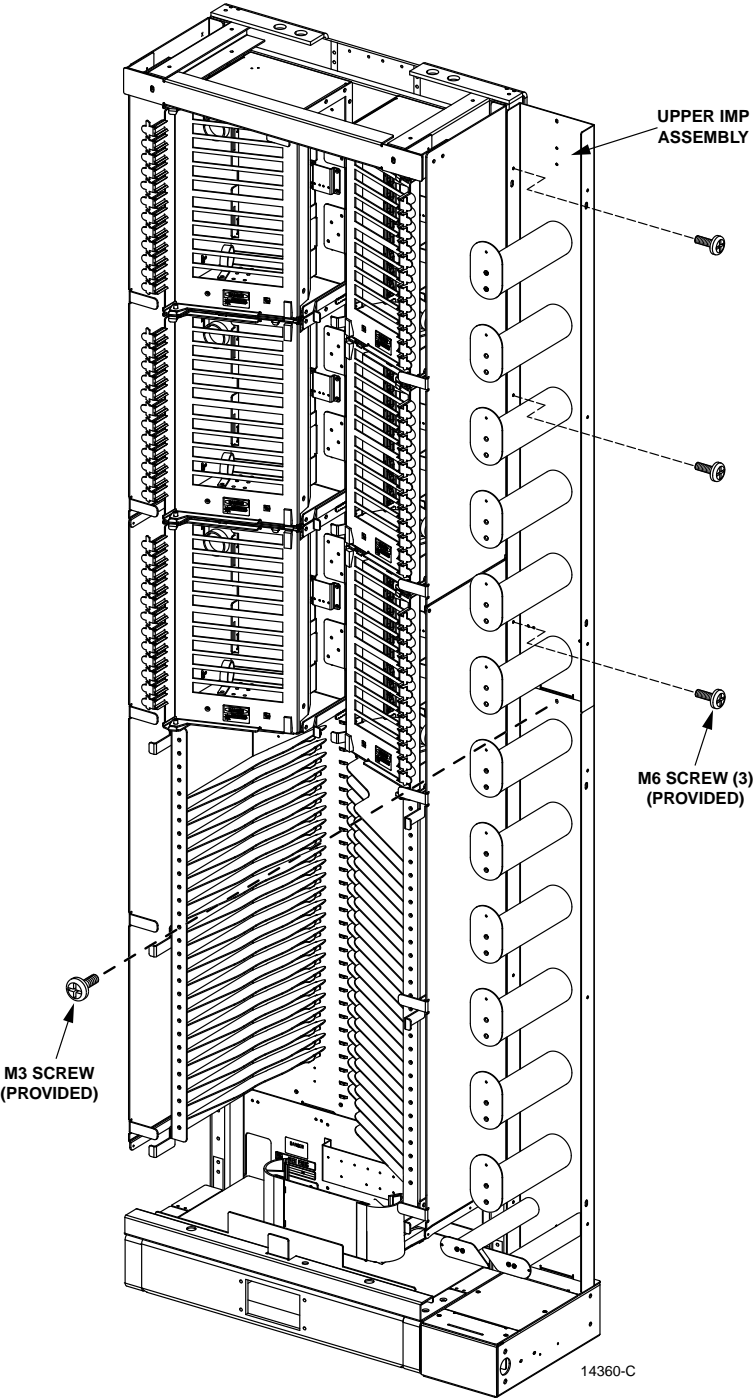

Figure 60. Attach Upper IMP Assembly
- 5. Place upper IMP assembly above lower IMP assembly and attach with M3 screw (provided). Attach upper IMP to frame using M6 screws (provided) as shown in Figure 60.